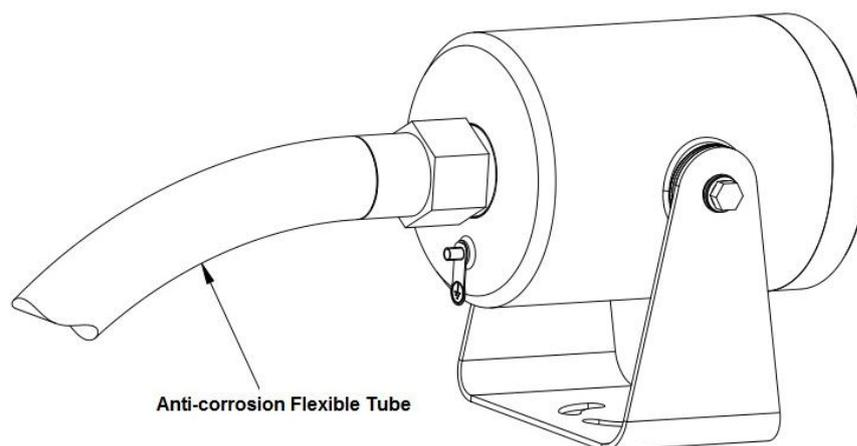

Figure 3-2
Step 2 After tightening the thread connector tightly, tighten the anti-corrosion flexible tube, which is shown in Figure 3-2.